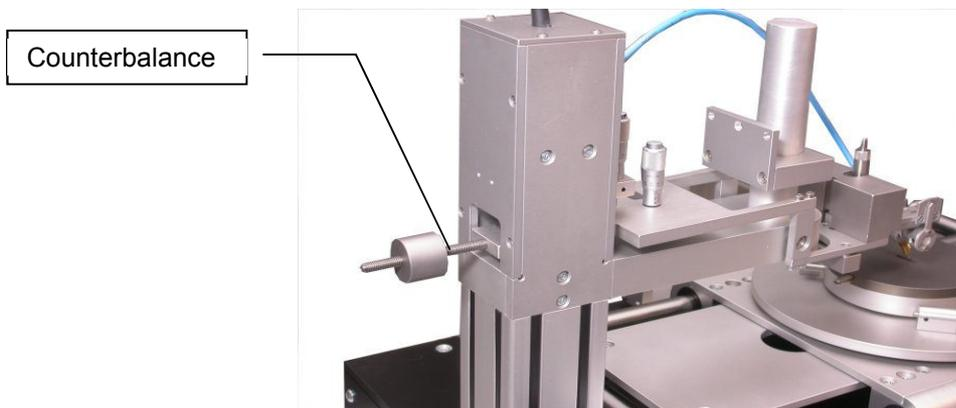
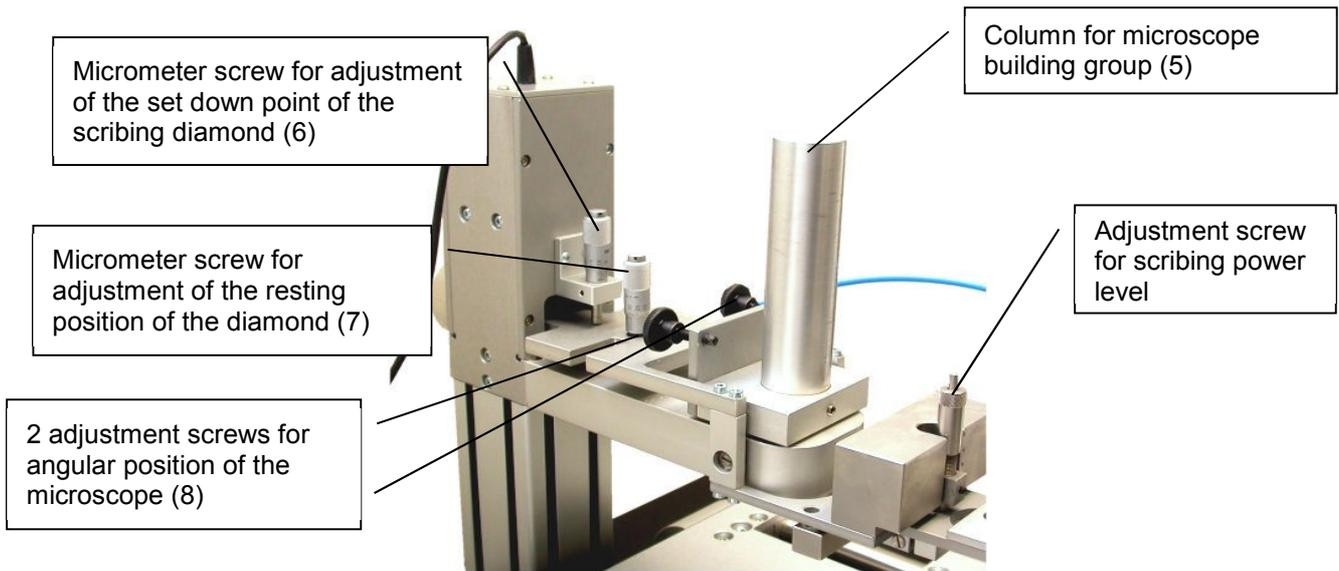

Fig. 9: Counterbalance for adjustment of lowering speed
Fig. 13: Detailed view of diamond adjustment and microscope column
MR100/200 is delivered with clamped lowering device for the diamond. The lowering device is fixed by micrometer screws (6) and (7), see Fig. 13.
- Do **not** activate footswitch. Use micrometer screw (7) in Fig. 13 to adjust the resting position, it might be necessary that micrometer screw (6) has to be loosen at same time. The upper position depends on the sample thickness. As rough indication 2mm above the waferchuck is a sure distance.
- Now activate footswitch and hold on. At the same time adjust the bottom position of the diamond spike using screw (6) about 0.5mm below the waferchuck. Release footswitch.
- Adjust the lowering speed of the diamond to your requirements using the counterbalance Fig. 9
Loosen wedging of the microscope building group slightly. Now the microscope is to be rotated with the help of the set screws [Fig. 13: (8)] at the adjusting assistance, until the cutting line coincides with the y axis of the hair cross. Tighten wedging with moderate strength again. Repeat the procedure if necessary.
Use screw for scribing power adjustment as shown in Fig. 13. To change or add additional springs, please unscrew and insert new springs.